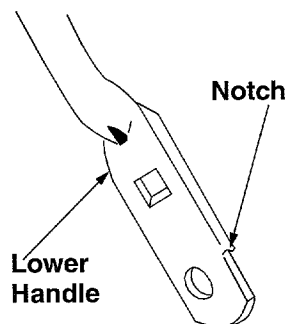

Figure 16
- Remove the hairpin clip from the weld pin on the handle bracket on each side of the lower handle. See Figure 16 inset. Press out on the legs of the lower handle. Remove lower handle from the mower.
- Turn the lower handle around so the notch on the bottom of the lower handle is facing forward as shown in Figure 16. Reassemble, placing the bottom hole on the handle over the weld pin in the handle mounting bracket.